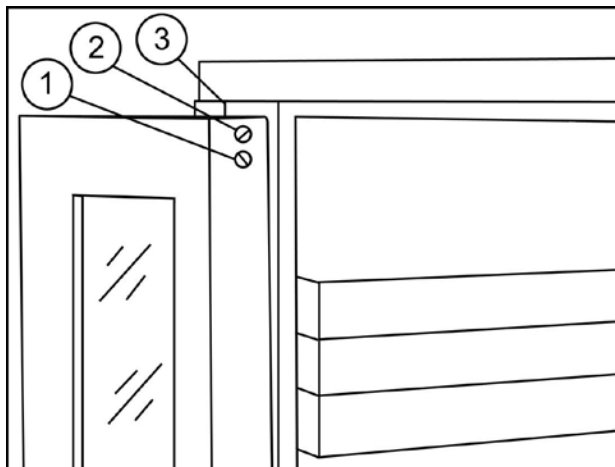

Fig.6
1. Remove lower screw (Fig. 6, #1) from upper hinge assembly of door.
2. Loosen top screw (Fig. 6, #2) from upper assembly.
3. Push upper hinge pin (Fig. 6, #3) into door.